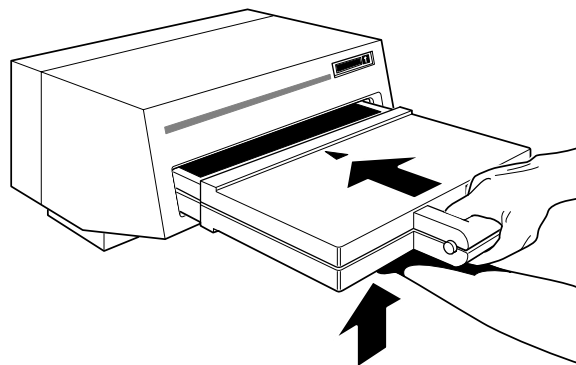

Figure 8 - Inserting the universal magazine
- Insert the magazine into the NDT FEEDER as shown in fig. 8.